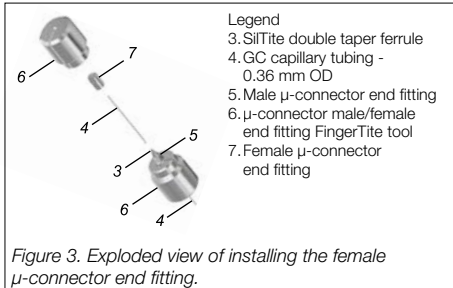
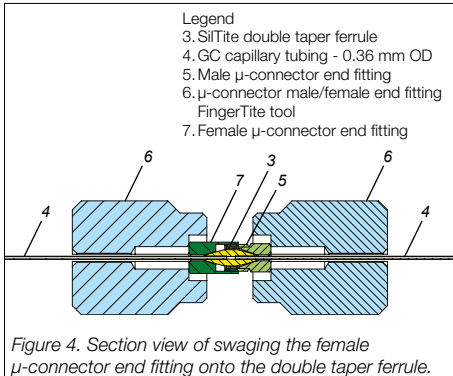
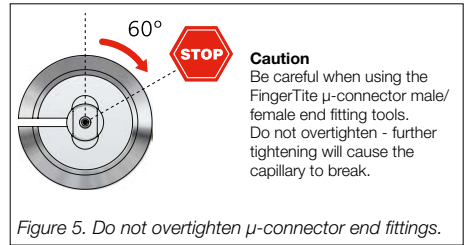

Figure 3. Exploded view of installing the female  $\mu$ -connector end fitting.
Figure 4. Section view of swaging the female  $\mu$ -connector end fitting onto the double taper ferrule.
Figure 5. Do not overtighten  $\mu$ -connector end fittings.
- Remove the ferrule/nut adaptor tool (1) with connection nut (2), by unthreading it from the male  $\mu$ -connector end fitting (5). Replace the ferrule/nut adaptor tool and connection nut into the kit. Referring to Figure 3, locate the female  $\mu$ -connector end fitting (7) and slide onto the second piece of capillary tubing (4) – the thread of the end fitting should be facing towards the end of the capillary tubing that will be connected to the  $\mu$ -union (see Fig. 4).
- Insert the capillary into the double taper ferrule and screw the female  $\mu$ -connector end fitting (7) into position making sure the capillary seats inside the ferrule – there is a stop designed within the ferrule. Gently tighten the female  $\mu$ -connector end fitting with your fingers until you feel resistance, while ensuring the capillary end is against the stop inside the ferrule.
Locate both of the FingerTite  $\mu$ -connector male/female end fitting tools (6) and slide them over the capillary via the slot cut into the tools, onto the end fittings (5 and 7). To swage the ferrule, gradually tighten the female  $\mu$ -connector end fitting (7) until the ferrule just begins to hold the capillary, then tighten a further  $60^\circ$  (see Fig. 4 and Fig. 5).